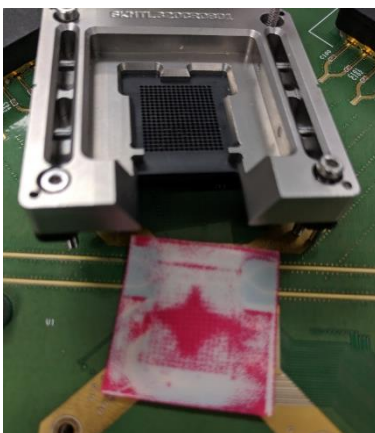

Figure 6: Socket Disassembled with Contact Paper Results
- **Disassemble the Socket** – Take the socket apart to access the test area where the contact paper is located. (See Figure 6)